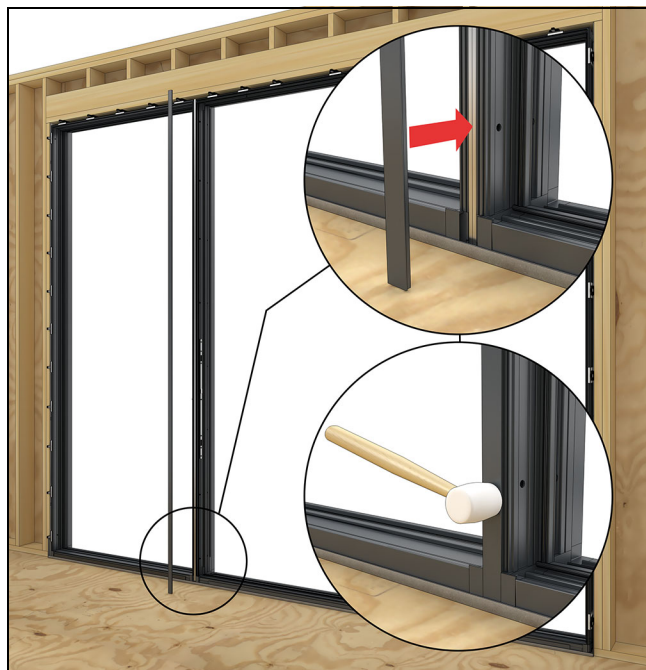

Figure 41
14. Install the interior mull cap. Seat with a rubber mallet. See Figure 41